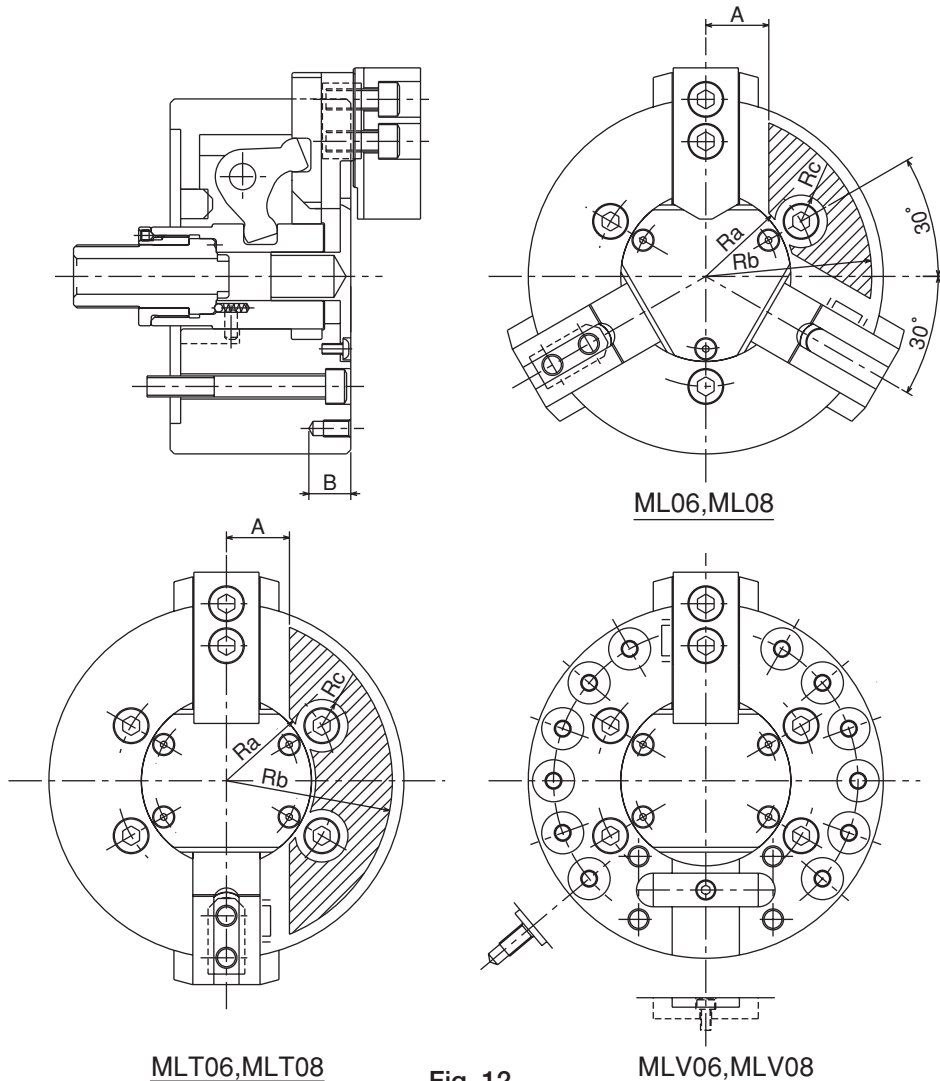

Fig. 12
- In the case of attaching the locator and the jig on the chuck body surface, tap or drill a hole in the additional process range specified in Fig. 12.